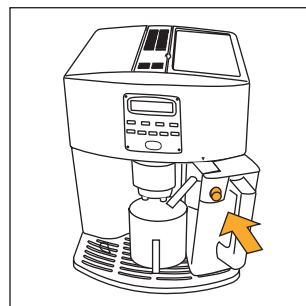

Fig.25
- Press the **CLEAN** button on the milk container lid down and hold down for at least 8 seconds (fig. 25). The appliance displays: